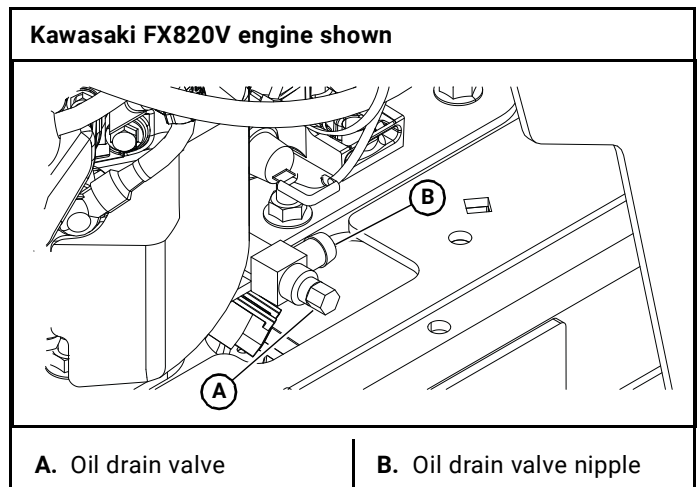

Figure 5-1
1. Locate the oil drain valve on the engine or at the bottom of the oil reservoir. Figure 5-1
3. Attach one end of the hose onto the oil drain valve nipple. Make sure the hose is pushed all the way onto the valve. Figure 5-1